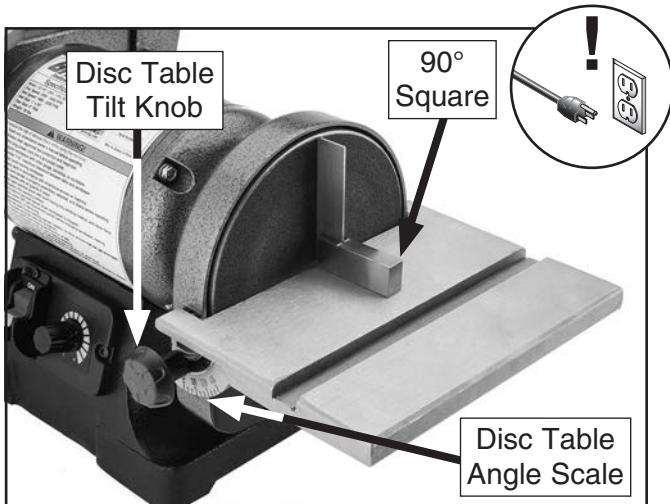

Figure 24. Setting disc sander table angle.
2. Loosen disc table tilt knobs and position disc sander table so knob shaft aligns with desired angle on disc table angle scale, as shown in **Figure 24**.